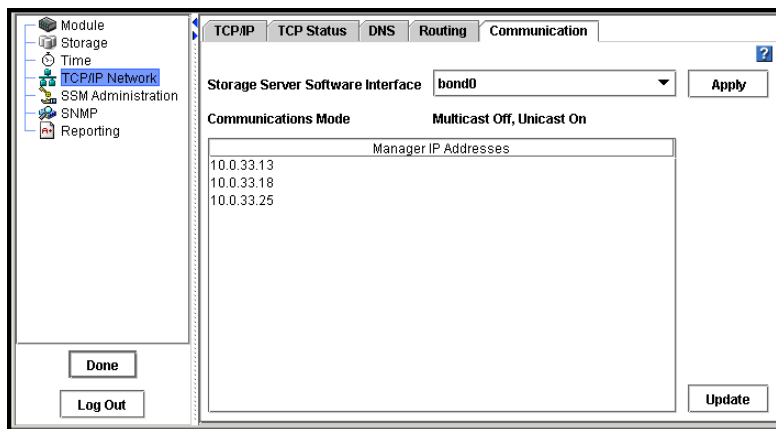

Figure 95. Selecting the Storage System Software Network Interface and Updating the List of Managers
2. Click the Communication Mode tab to bring it to the front, shown in Figure 95.